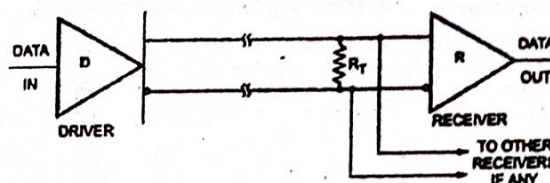

Fig. 1 : RS 422A interface circuit
A basic RS 422A circuit has a data line driver, differential transmission line and loads, where a load may consists of one or more receivers (R) and the line termination resistor (R_T), as shown in Fig. 1.